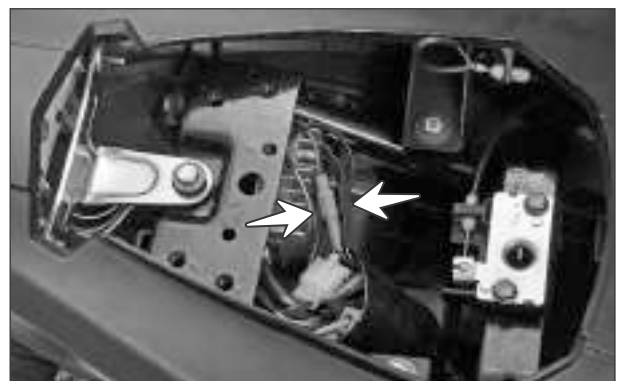

Fig. 5.60
- ▮ Disconnect the number plate lamp couplers from the main wiring harness. (Fig. 5.60)